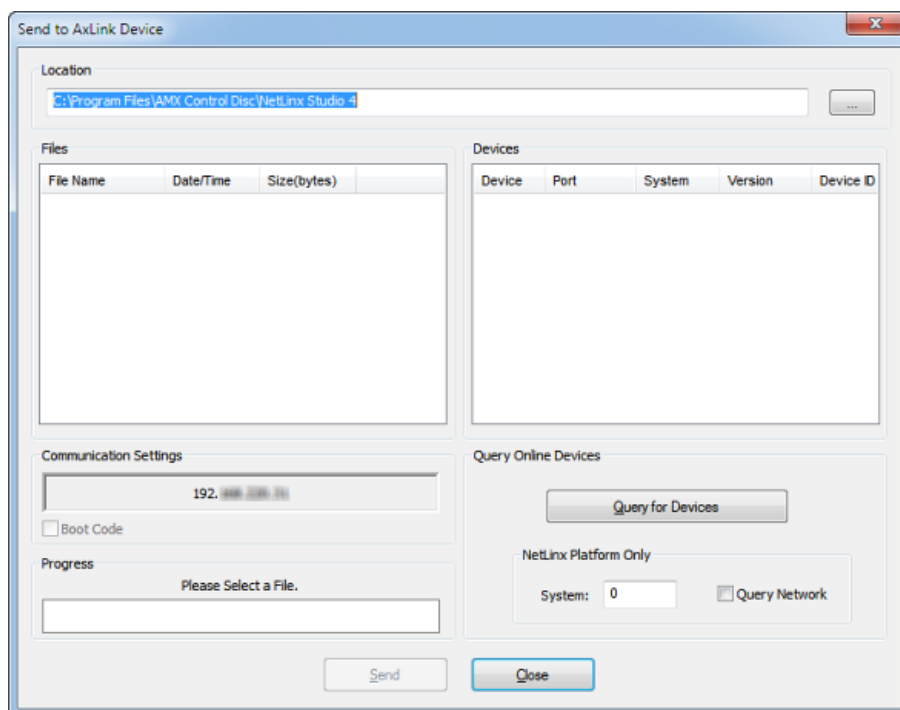

FIG. 37 Send to AxLink Device Dialog
2. Go to **Tools > Firmware Transfers > Send to AxLink Device**. The Send to AxLink Device dialog opens (FIG. 37).